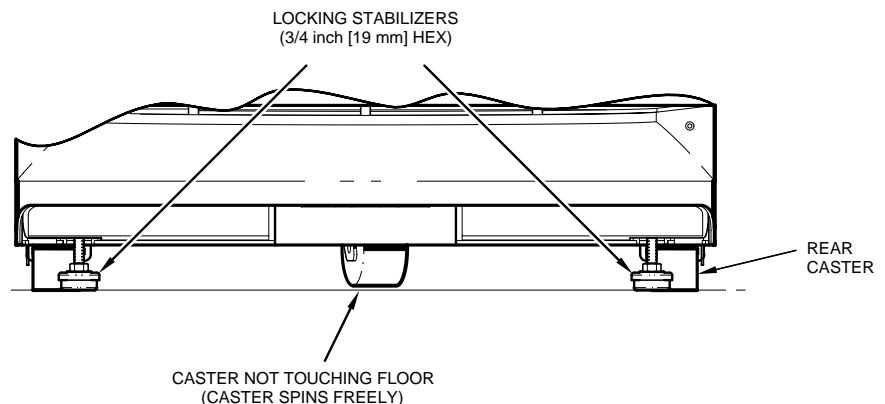

Figure 2-2. Leveling Adjustment
4. Check that the centrifuge does not rock on its four support points, the two front stabilizers and the two rear casters (see figure 2-2).